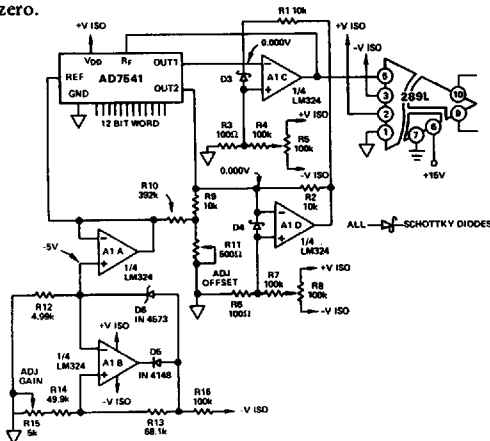

Figure 16. 12-Bit Isolated Voltage DAC
**Isolated DACs:** Figure 16 shows a 12-bit DAC with  $\pm 5V$  isolated output. A buffered  $-5V$  reference voltage is provided to the DAC by A1a, A1b and associated circuitry. The digital input causes a proportion of DAC current to flow into OUT1 of the DAC. The remaining DAC current flows into OUT2. Current flowing into OUT1 causes positive voltage at the output of A1c. Current flowing into OUT2 causes a positive voltage at the output of A1d, which in turn causes a negative voltage at the output of A1c. Voltage appearing at the output of A1c is reproduced at the output of the model 289. R5 and R8 must be adjusted to produce less than  $0.5mV$  at OUT1 and OUT2 of the DAC respectively. R15 may be used to adjust gain and R11 to adjust offset with the binary code 1000 0000 0000 to zero.